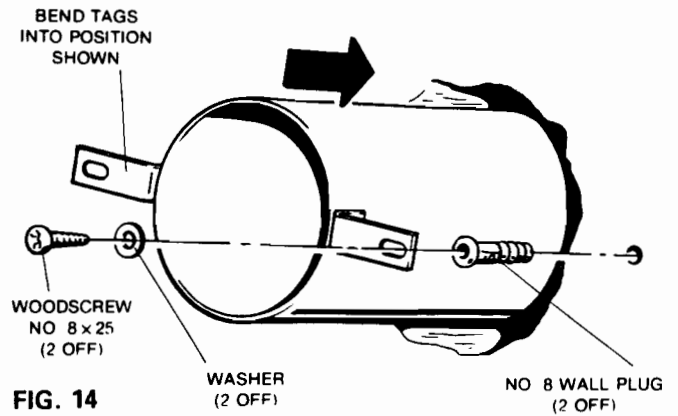

FIG. 14
- From the terminal assembly pack remove the wall liner and the two wall liner mounting screws, washers and wall plugs contained in the polythene bag. Measure the wall thickness and cut the wall liner to suit, remove the sharp edges. Bend fixing tag into position shown (see Fig. 14).
- e) Insert the wall liner with the seam uppermost and drill the two No. 8 x 30mm wall liner fixing holes and insert the two No. 8 wall plugs (see Fig. 14).
- f) Secure with the two screws and washers provided (see Fig. 14).